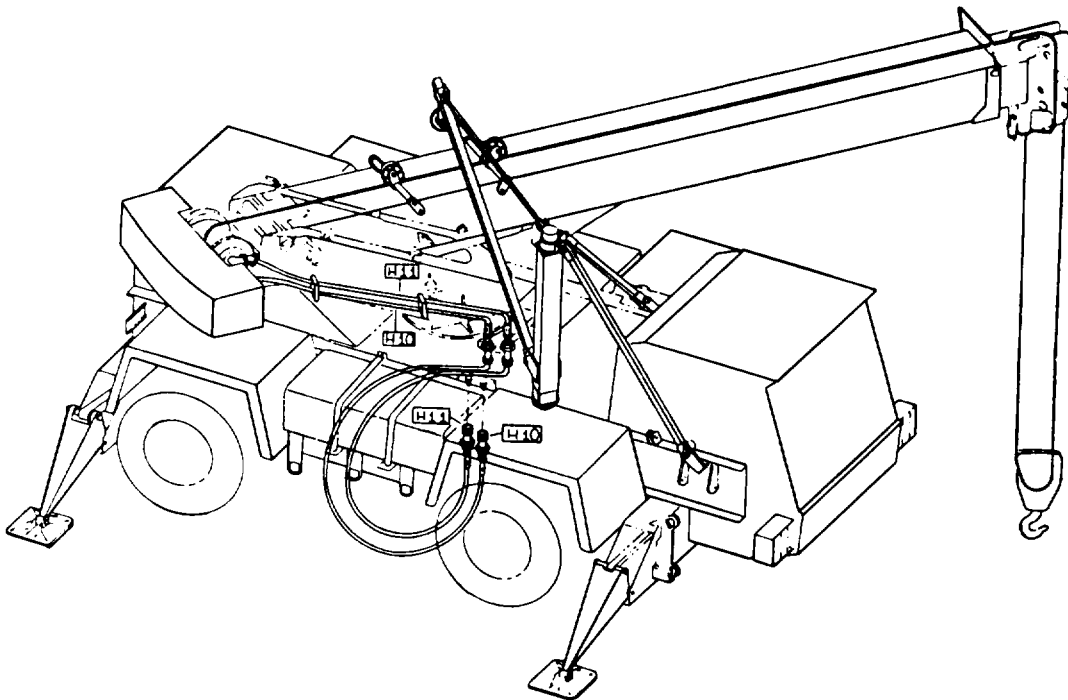

Figure 5-21 Positioning of Mast and Lifting Arm
1. Swing mast and lifting arm around from beside cab and position it over lifting point of boom, between toggle sheaves (Figure 5-21).